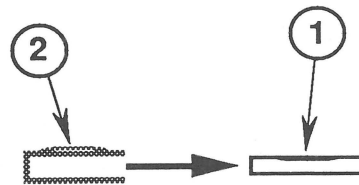

FIGURE 5
12. Check the plastic case to ensure that it has u-nuts installed on all the screw holes. If u-nuts are not installed, refer to Figure 5, which is a side view of one hole (Figure 5, #1) with the u-nut being slipped into position (Figure 5, #2).